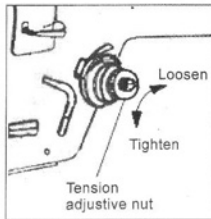

Fig. 11
21. The thread tension adjustment (Fig.11, 12, 14)